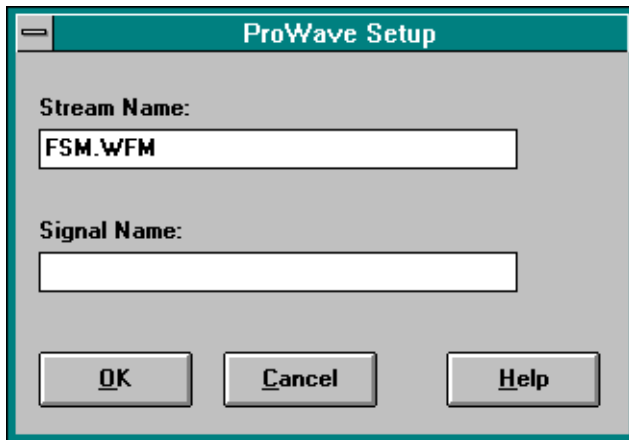

Figure 2-15 PROwave Setup Dialog Box
5. Select the **Command File** box and the **Browse** button. The Command Files browser appears as in Figure 2-15: